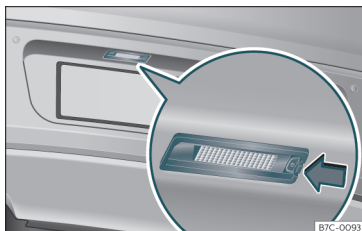

Fig. 95 In the rear bumper: number plate light.
1. Press the number plate light in the direction of the arrow » **Fig. 95**.